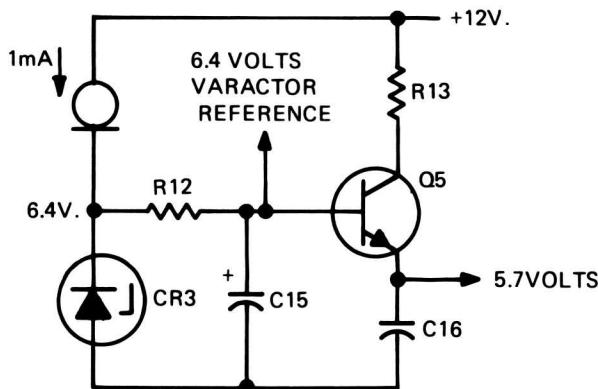

Figure 8-9. Voltage References
- 8-26. Constant current diode CR2 feeds 1 mA to zener diode CR3 providing 6AV dc for the EFC varactor reference. R12 and C15 form a filter to attenuate noise from the zener diode. R13 provides current limiting for Q5 if the 5.7V line is shorted. See Figure 8-9.